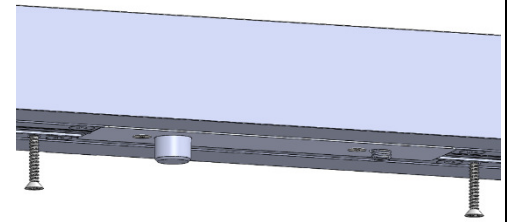

Figure 5:
3. Secure Top pivot to header with #10 screw min. 4" long (not by Fleetwood). See Figure 5 for illustration.